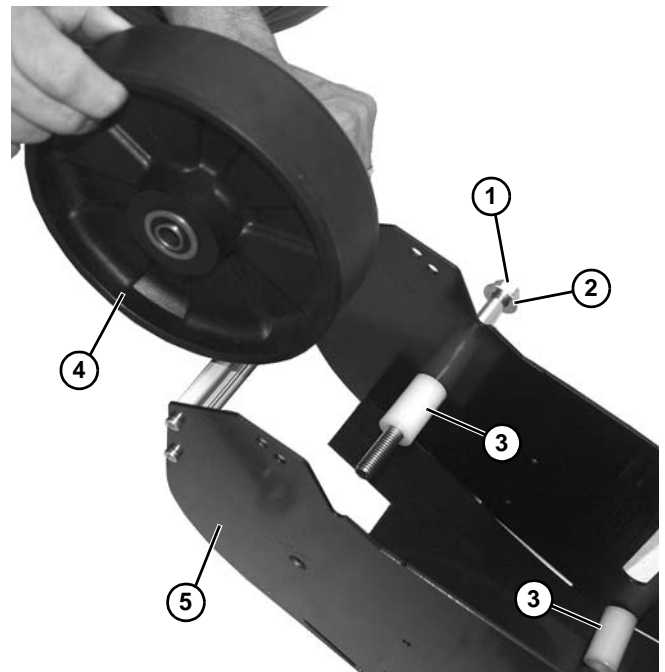

Figure 134
4. Remove bolt (Figure 134, item 1), washer (Figure 134, item 2), two spacers (Figure 134, item 3), and wheel (Figure 134, item 4) from take up assembly housing (Figure 134, item 5).